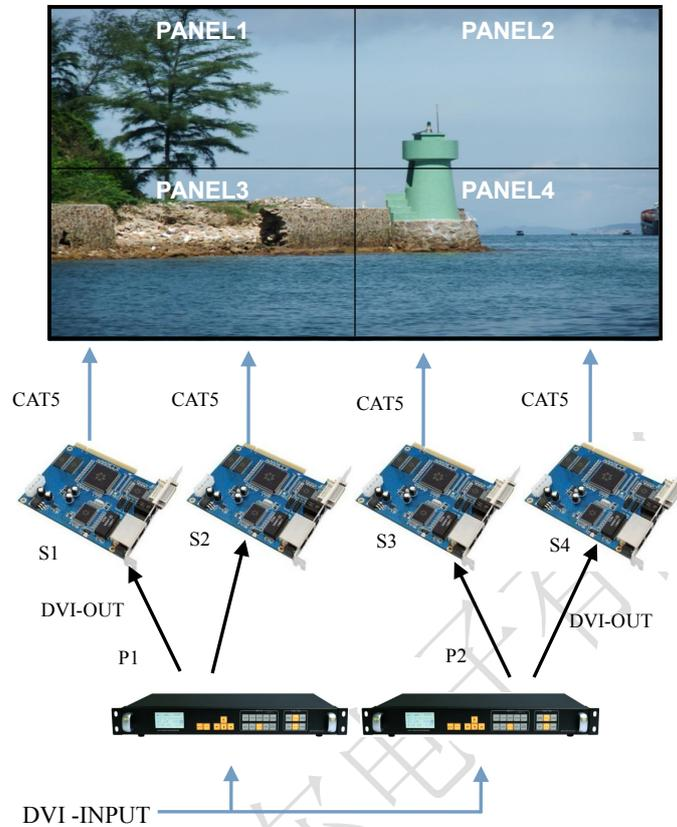

Figure 14-Unequal Splicing
- 1.Refer to Figure 14 Connect all devices.